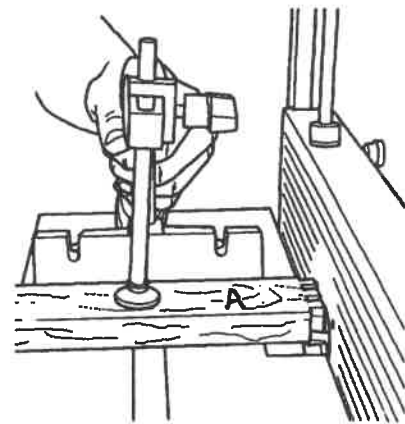

Fig. D-27
19. Turn on the Dust Collector and router. Use the miter gauge to undercut the pins in workpiece "A", as demonstrated in Fig. D-27.